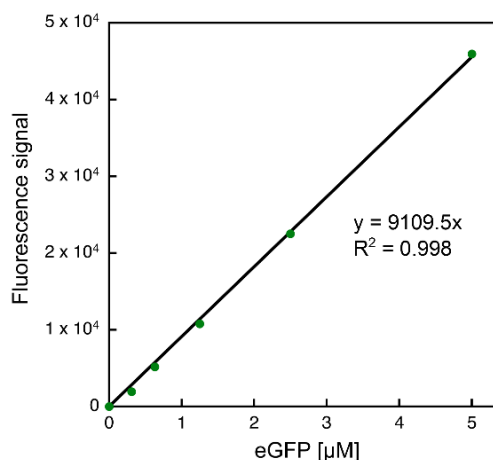

Figure 4. Example of an eGFP calibration curve to evaluate the protein production efficiency of the myTXTL[®] kit.
- Plot the Blank subtracted fluorescence values of the eGFP standard (Y-axis) against their respective protein concentration (X-axis) and fit the curve to the linear regression formula ($y = m \cdot x$) to determine the eGFP concentration in the myTXTL[®] control reaction (Figure 4).